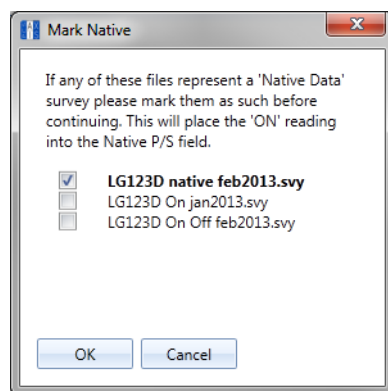

Figure 12-21. Mark Native
- 7 If you are importing a survey file with *Native Data*, select the native survey file when the *Mark Native* dialog box opens. Then click **OK** to continue the import process (Figure 12-21).